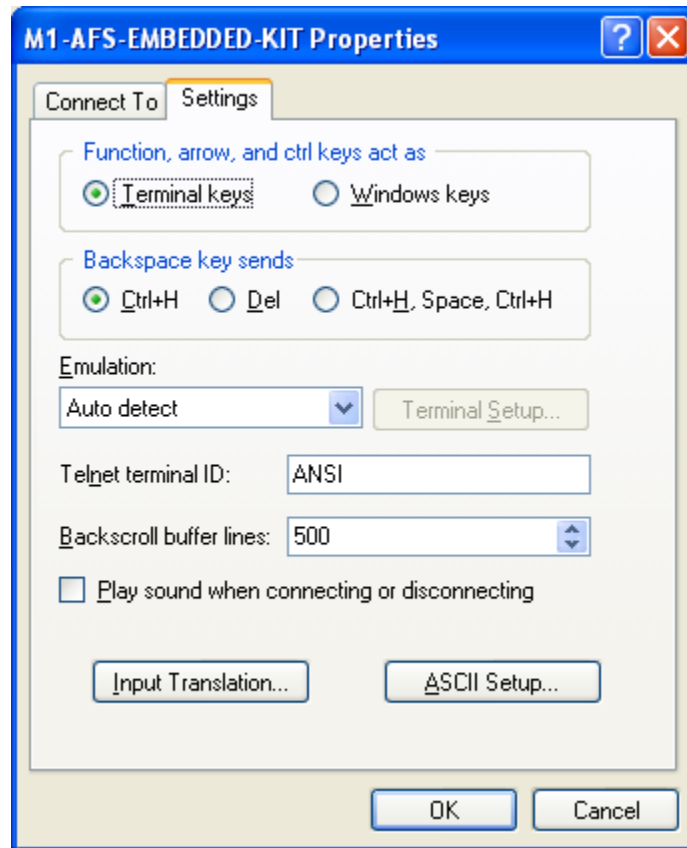

Figure C-9 · HyperTerminal Settings Tab
5. Select **File > Properties** in the HyperTerminal window. Choose the **Settings** tab (Figure C-9).